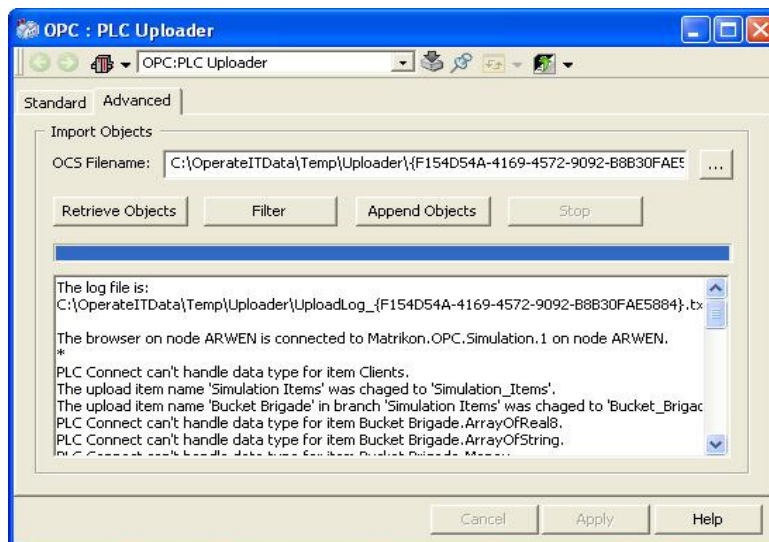

Figure 124. Retrieved Data
4. Click **Retrieve Objects** to start the data collection from the connected OPC server. Refer to Figure 124.